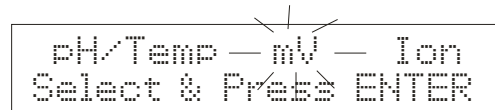
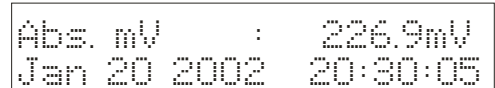

Figure 37
Figure 38
1. Turn the meter **ON**. If the meter is not in the mV measurement mode, press **EXIT** and use **>/CAL** to select mV. The mode selected will flash. See **Figure 37**. Press **ENTER** to confirm selection. The meter is now in absolute mV measurement mode. See **Figure 38**.